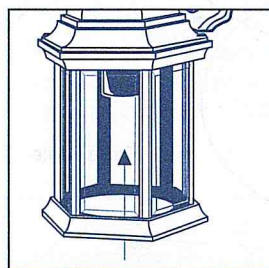

Figure 5
- For open bottom fixtures, insert bulb(s) through bottom opening (see figure 5).